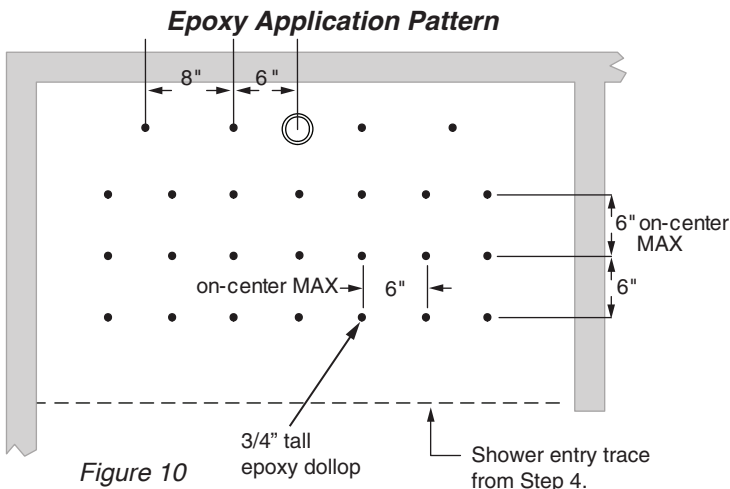

Figure 10
- 5** Sweep the subfloor and remove all debris from the pocket area and the underside of the unit so the supplied epoxy will adhere properly. The floor may be damp, but there should be no standing water. Figure 10 shows the epoxy pattern required for installation.